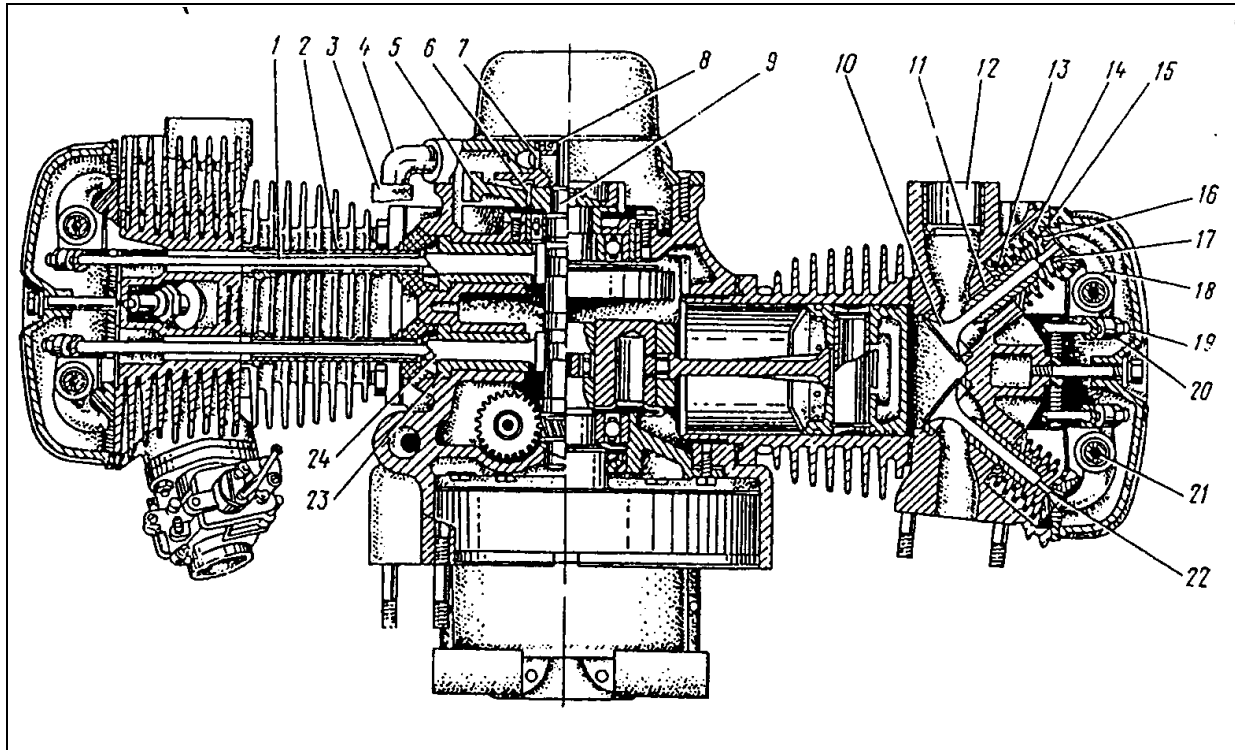

Figure 4.3-1. Engine Valve Timing Gear
The valve timing gear (Fig. 4.3-1) controls combustion mixture into the cylinders and waste gas exhausted into the atmosphere. The intake and the exhaust valves are not interchangeable. The camshaft rests above the crankshaft on two bearings inside the engine crankcase; a front ball bearing, and a rear bronze blind bushing. Camshaft drive is by gear from the front of the crankshaft. Tappets ride in guide bushings, actuating pushrods through sealed tubes in the cylinder. Rocker arms mounted on the cylinder heads push directly on the valve stems. Valve clearance is adjusted via screws in the rocker arms.
The engine has both splash and pressure lubrication. Critical parts are pressure lubricated by a mechanical oil pump. (Figure 4.3-1) A full-flow replaceable oil filter is provided in the lubrication system to prolong the engine service life. The crankcase serves as the oil reservoir for the engine. The single-stage oil gear pump (24) is driven from the camshaft through a gear and connecting bar (2).
Valve adjusting procedure (Figure 4.3-1): Remove spark plugs. Place a pan under the cylinder head, take off the valve cover ("head cap") and drain off accumulated oil. Then turn the crankshaft slowly, using the kick lever. Just when the intake valve (22) begins to close, set the clearance for the exhaust valve (10) and at the time the exhaust valve begins to open, set the clearance for the intake valve. Check the clearance between the larger end of the rocker arm and the valve stem. If the clearance is not correct, slacken off locknut and by turning the adjusting bolt (19) in or out, set the required clearance with a feeler gauge. Lock the adjusting bolt with the locknut (20) and check the clearance again. In the course of running-in, check after 500 km and as required, but at least once every 2,500 km. Readjust clearances on the cold engine only.